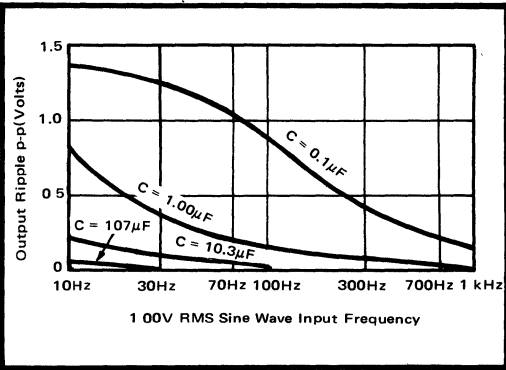
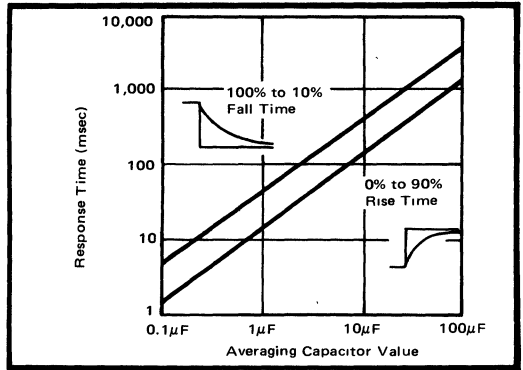

FIGURE 2. Output Ripple Magnitude vs. Input Signal Frequency.
FIGURE 3. Response Time vs. Value of Averaging Capacitor.
- Model 4341 will convert DC inputs. Lower frequency AC inputs require a large value of averaging capacitor to minimize ripple at output. (see Figure 2).
A single-pole low-pass RC filter provides the averaging function. The time constant is $1/2 RC$ where R is $10k\Omega$ when the 4341 is adjusted for unity gain. To select the best value of C , make a tradeoff between output ripple and response time. Figure 2 shows the ripple magnitude vs. frequency for several typical values of capacitor. Response time vs. capacitor value is shown in Figure 3. (Note that rise times and fall times are different for the same value of capacitor).